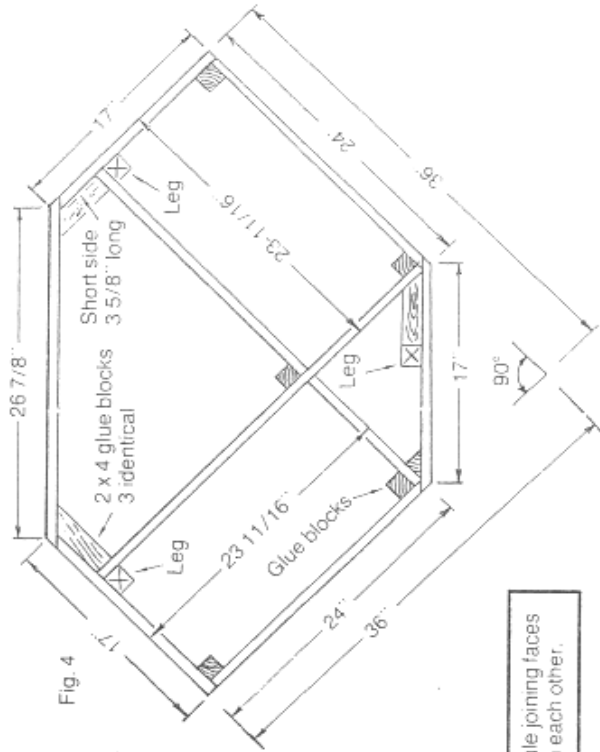

Fig. 4
- **Track Buses (Right End):** - Anderson 30 Amp Powerpole Red/Black set – The two connector housings are stacked *vertically*, hood up, tongue down, *red over black* (Figure 2, right) using the molded-in dovetails provided (memory aid: “Red-Right”). Each Track Bus pigtail should extend 12” beyond the right end of the module. Connector pairs should be color coded with tape or paint (red/yellow/blue, etc.), or appropriate colored connector housings used in place of the red housing of each pair (i.e., Yel/Blk, Blu/Blk, Grn/Blk etc.) as shown in Figure 4.
- **Track Buses (Left End):** – Anderson 30 Amp Powerpole Red/Black set – The two connector housings are stacked *vertically*, hood up, tongue down, *black over red* (Figure 2, left), using the molded-in dovetails provided. Each Track Bus pigtail should extend 12” beyond the left end of the module. Connector pairs should be color coded with tape or paint (red/yellow/blue, etc.), or appropriate colored connector housings used in place of the red housing of each pair (i.e., Yel/Blk, Blu/Blk, Grn/Blk etc.) as shown in Figure 4.